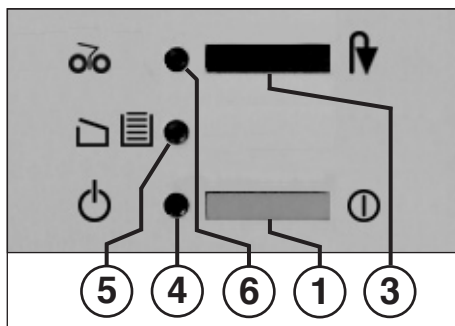

fig. 1
#### 1 = Pushbutton switch (fig. 1)
#### 3 = Pushbutton switch (fig. 1)
#### 4 = Pilot lamp (fig. 1)
#### 5 = Pilot lamp (fig. 1)
#### 6 = Pilot lamp (fig. 1)
- Turn machine on with pushbutton switch (1) (fig. 1). Pilot lamp lights up (4) (fig. 1).
Once the collecting bag is full, the machine switches off. The pilot lamp „Container full“ / „Door open“ (5) (fig. 1) **flashes**. To show that the cutting mechanism has stopped, the pilot lamp „Paper jam“ / „Stop“ (6) lights up.
- Move back the sliding frame with the collecting bag and close door. The pilot lamp (5) (fig. 1) goes off.
- Briefly press the pushbutton switch „Backward operation“ / „Stop“ (3). The cutting mechanism shreds what remains in the feed shaft and then switches off. The pilot lamp (6) goes out. You can now continue shredding.